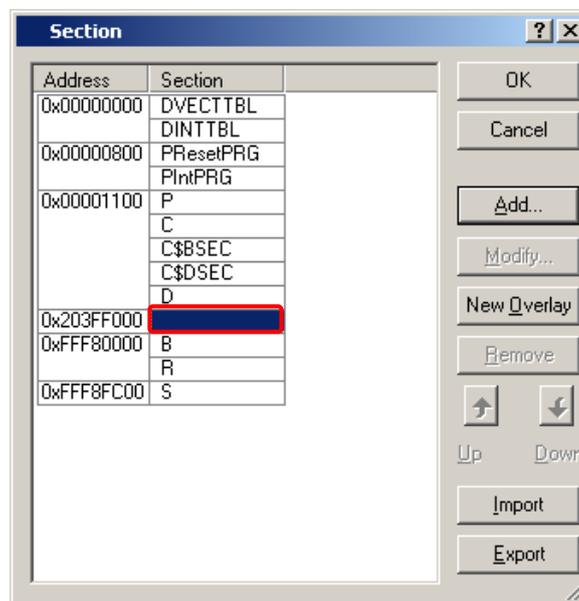

Figure 5.3.14 Section Setting (4/6)
(4) The Section address is added and the display returns to [Section] dialog box. Select the blank space of Section as shown in Figure 5.3.14, and click "Add...".